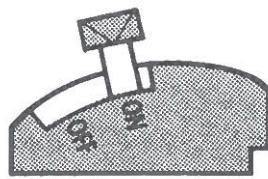

Figure 2
4. Move selector arm to the "on" position, (see figure 2), and set room thermostat to desired temperature. Allow burner to cycle on and off.